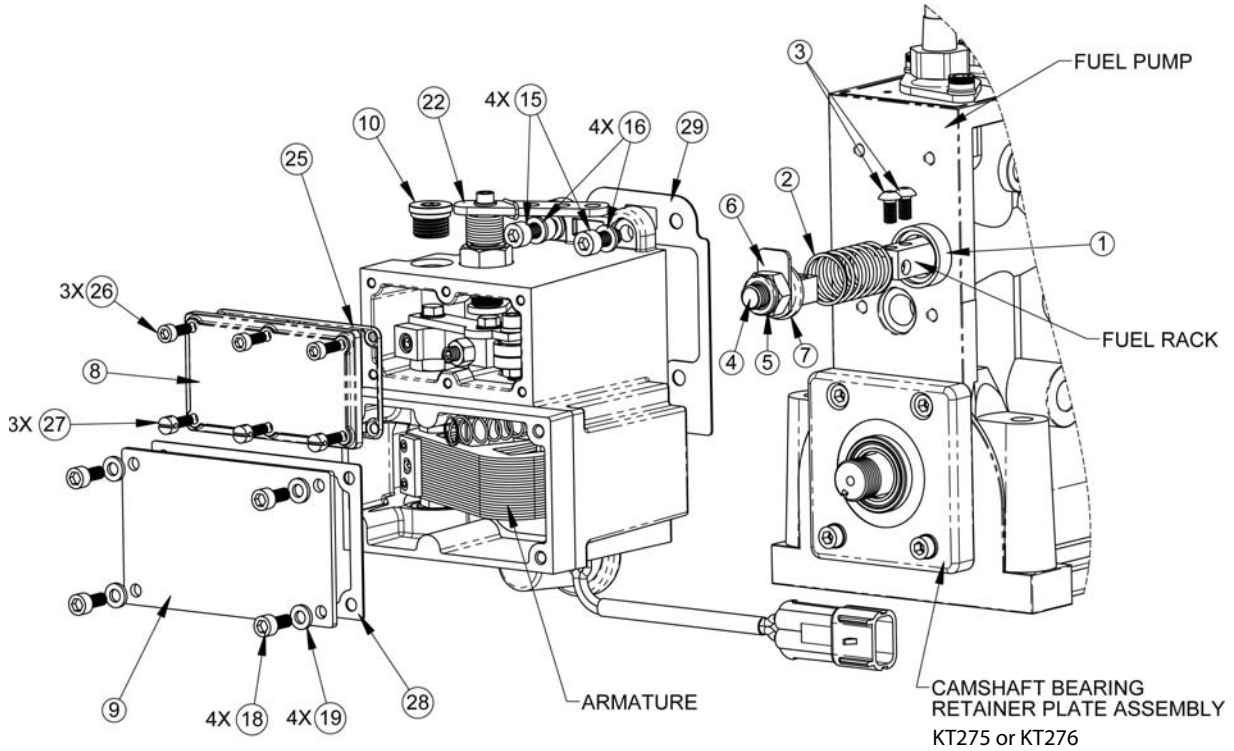
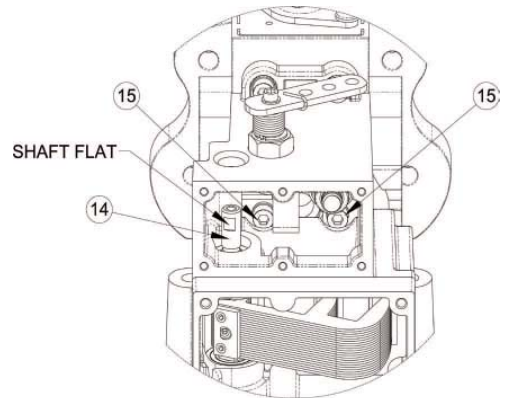

FIGURE 1-1
FIGURE 1-3
1. Place the spring seat (1) over the fuel rack and slide it to the body of the fuel pump (see Figure 1-1). Slide the fuel rack return spring (2) over the fuel rack and against the spring seat.
2. Attach the rack connection link assembly (4, 5, 6, 7) to the fuel rack with two M5 X 10 mm long retaining screws (3) that include patches of Loctite adhesive. Torque the screws to 3-4 NM.
3. Remove the upper actuator cover (8) and o'ring seal (25).
5. Insert two M6 X 16 mm long screws (15) and spring washers (16) through the lower mounting holes inside the upper actuator cavity (see Figure 1-3).